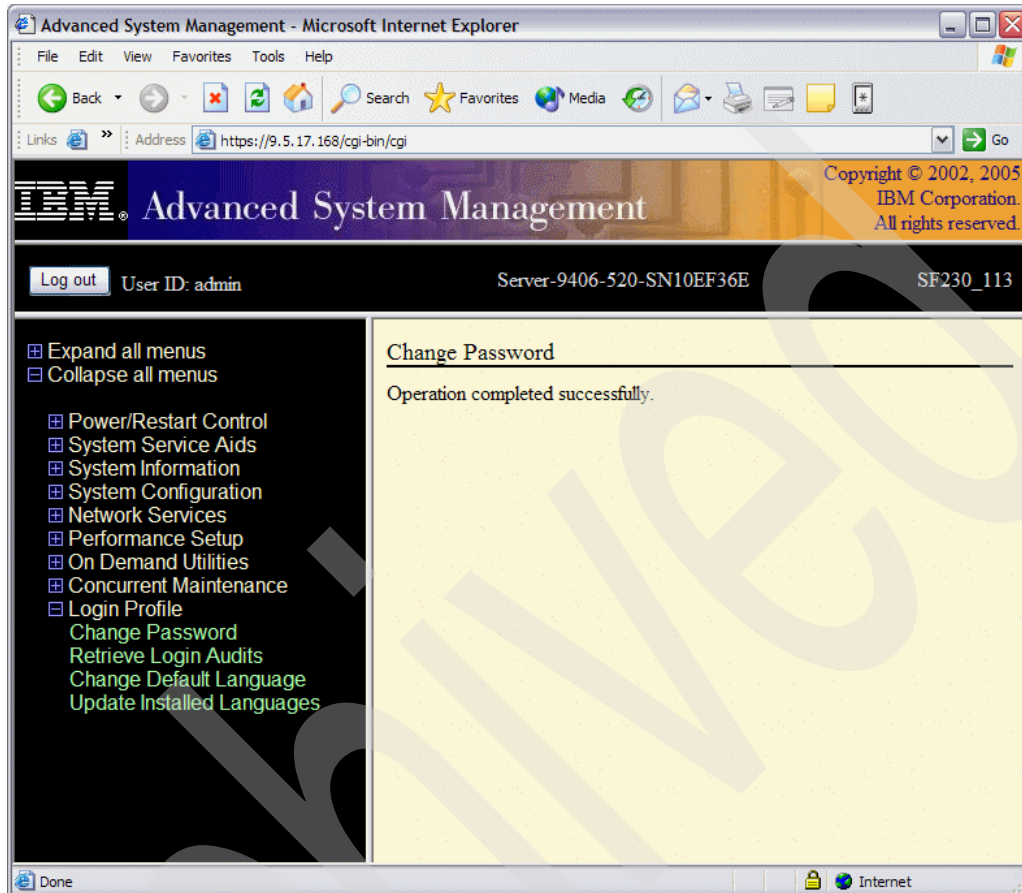

Figure 15-7 Change password completed
6. Click **Continue** to change the HMC Access password. ASMI will notify you if the password has been changed successfully (Figure 15-7).